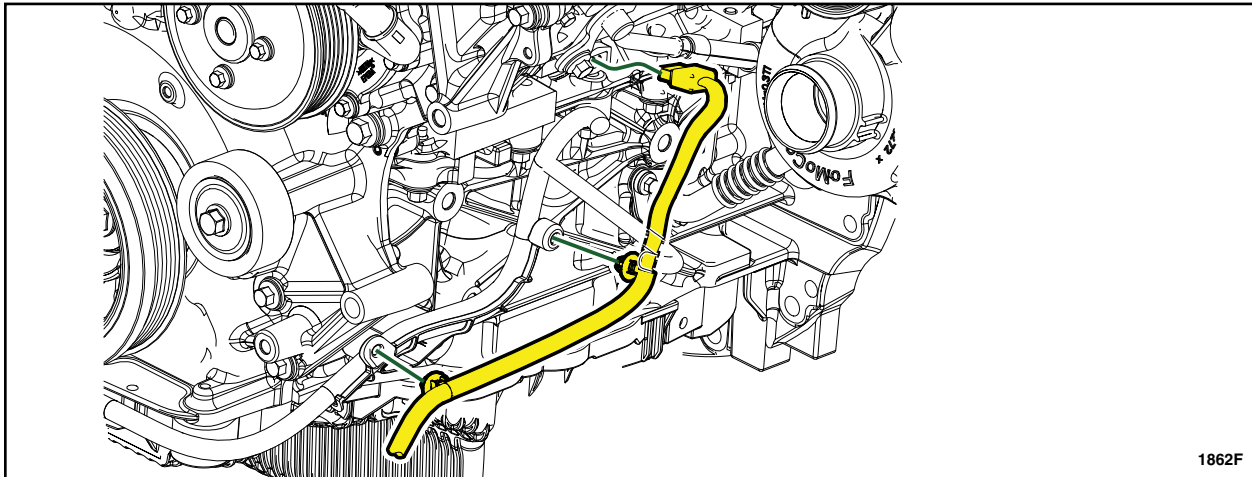

FIGURE 3a
5. Remove and discard the wire assembly. See Figures 3a, 3b and 3c.
8. Install the *new* wire assembly in the vehicle following the same routing as the wire assembly that is being replaced. See Figures 3a, 3b and 3c.